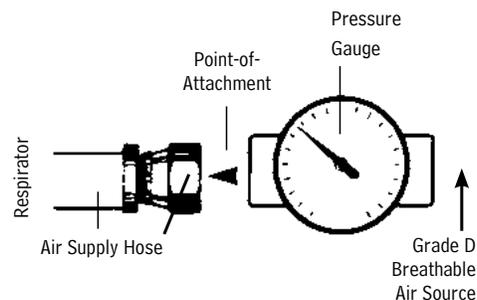

Figure 2
4. Adjust the air pressure at the point-of-attachment to within the approved pressure range (**Figure 2**).